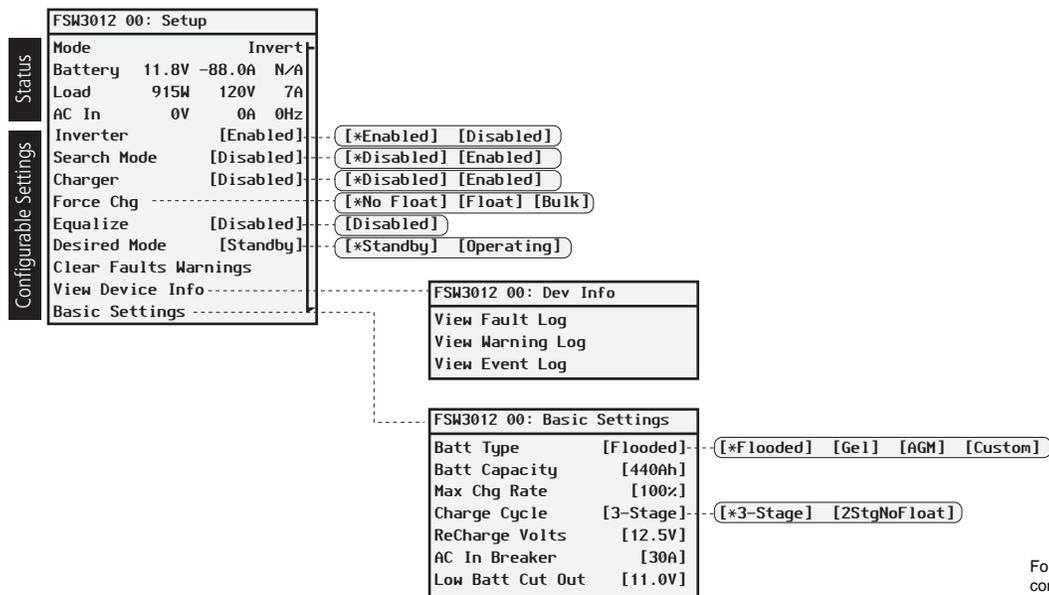

Figure 21 Selecting Basic Settings From the Device Setup Screen
1. On the **FSW3012 00: Setup** screen (Figure 21), press the down arrow button until **Basic Settings** is highlighted.